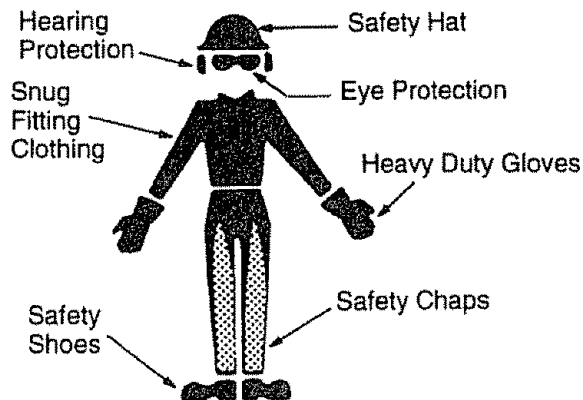

Figure 1
- Wear protective gear. **Figure 1.** Always use steel-toed safety footwear with non-slip soles; snug-fitting clothing; heavy duty, non-slip gloves; eye protection such as non-fogging, vented goggles or face screen; an approved safety hard hat; and sound barriers – ear plugs or mufflers to protect your hearing. Regular users should have hearing checked regularly as chain saw noise can damage hearing.